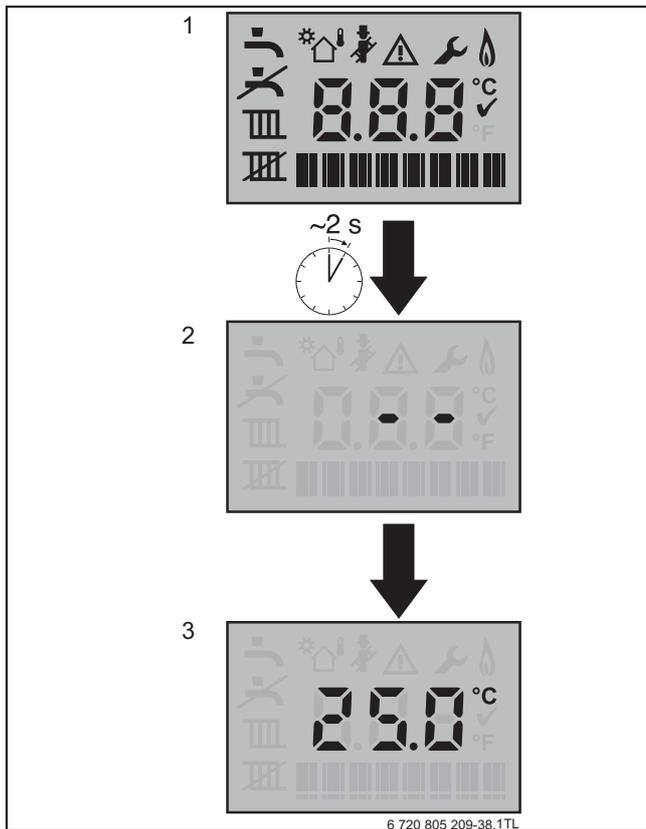

Fig. 58 Start up screens
- ▶ Turn on the mains power supply, initially the “Boiler start up screens” will be displayed (see figure 58:)